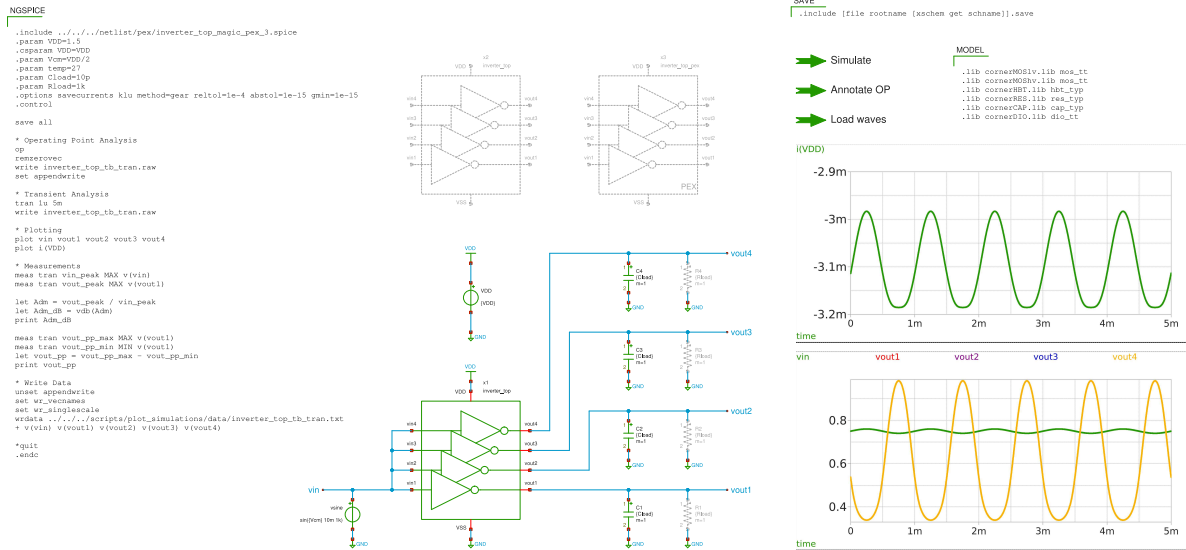

Figure 11: Xschem top-level testbench `inverter_top_tb_tran` (transient on `inverter_top`).
- inverter_top_tb_tran.sch, top-level transient on inverter_top (see Figure 11).